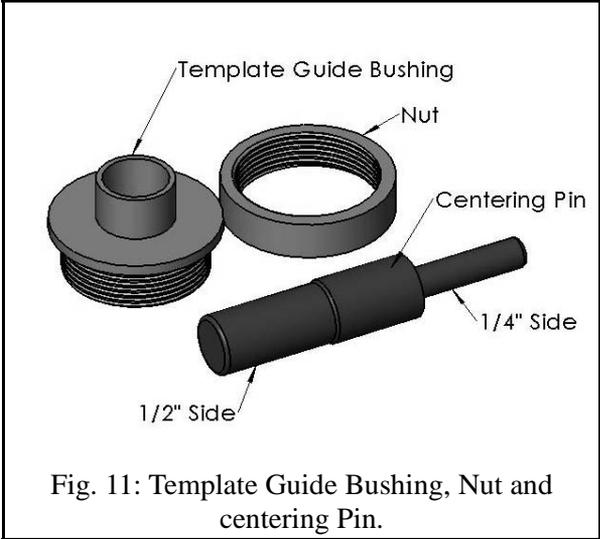

Fig. 11: Template Guide Bushing, Nut and centering Pin.
Step 1. The **template guide bushing** includes a **centering pin** that allows you to install it perfectly concentric with your plunge routers collet. Referring to Fig. 11, insert the appropriate end of the **centering pin** into your plunge routers 1/4" or 1/2" collet. Tighten the collet. Then install the **template guide bushing** by placing it into the counter bore of your plunge